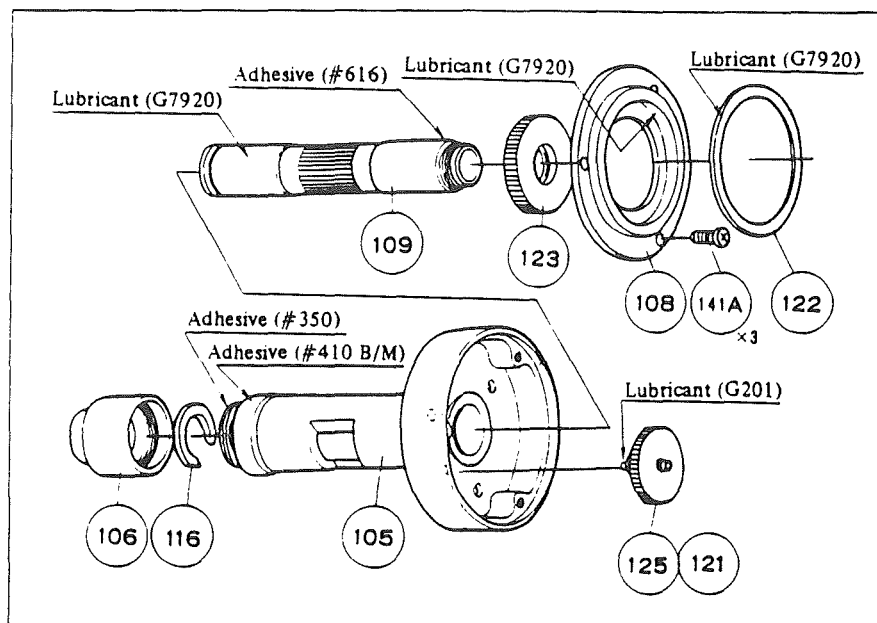

Fig. 26
- 5) Draw out coarse focus shaft (110). (Gears (126) and (127) will come in sight.)
- 6) Remove coarse focus bearing (108) as well as gears (121) and (125). (Fig. 26).
- 8) Releasing PM screw (41C) and CM screw (42), remove rack (9).
- 9) Immersing the subassembly consisting of (105), (109), (123), (116) and (106) into alcohol, separate coarse focus bearing (106).
- Furthermore, take off thrust loose stopper (116), and then pinion (109) and spur gear (123) can be taken out.
- ((109) and (123) are cemented with each other by No. 616) (Fig. 26).